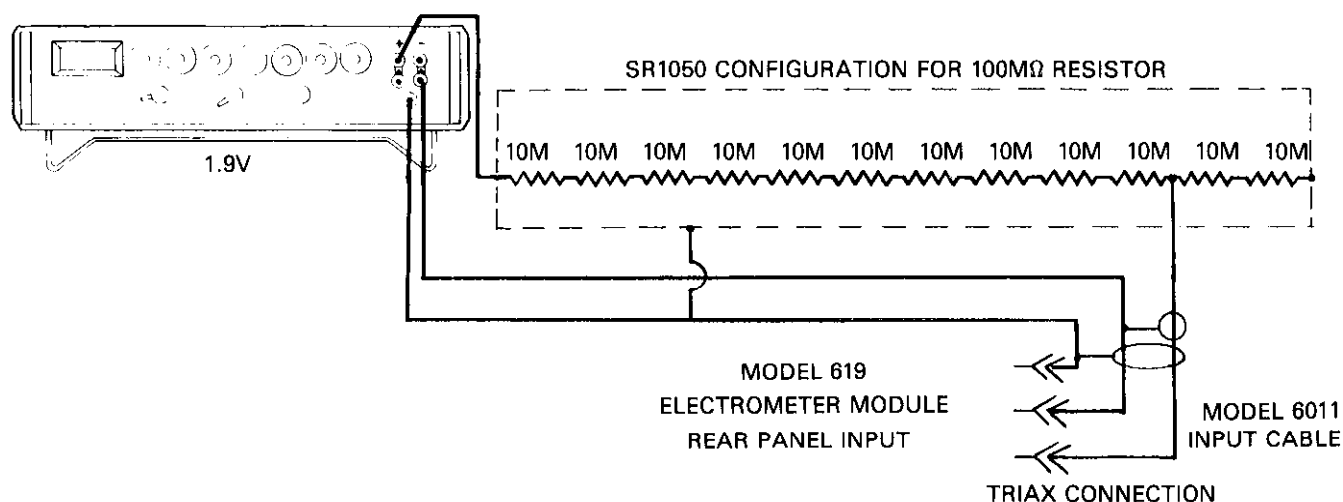

Figure 6-6. Range Calibration, 20nA
9. 20nA Range Calibration: Zero Check the Model 619 and downrange to the 20nA range. Apply +19.000nA to the input of the Model 619, release the Zero Check and adjust R654 for a display reading of +19.000 -9 to within ± 2 counts. Refer to Figure 6-6.